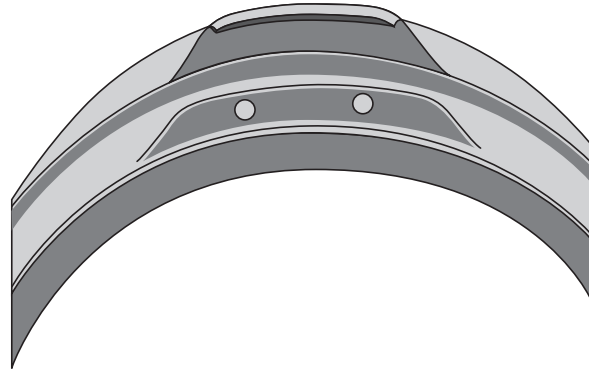

Fig. 4
6. Slowly drill each hole ensuring that the drill bit passes entirely through the tab on the lower jaw but does not damage or puncture any other part of the headgear (Fig. 4). Any excess plastic present around the recently drilled holes can be removed with a file.